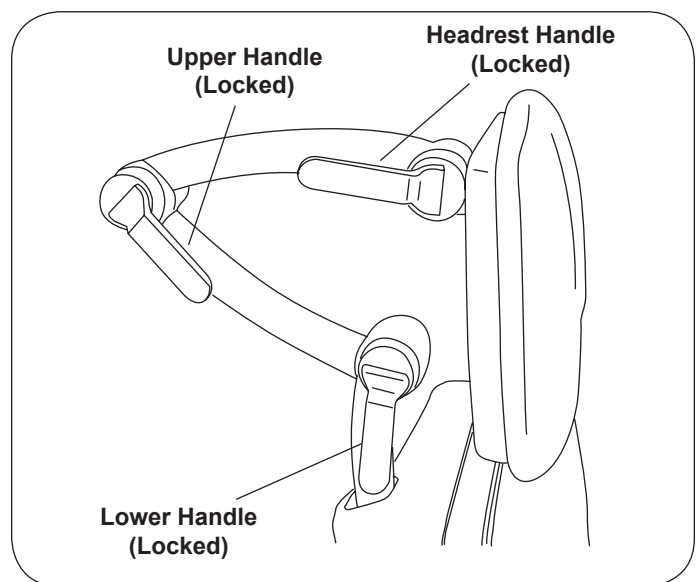

Figure 25. Headrest Handles
Headrest Positions (Figure 25)
1. To move the headrest, rotate the three handles to their open position. Move the headrest to its desired location. Rotate the 3 handles to their locked position as shown in Figure 25.